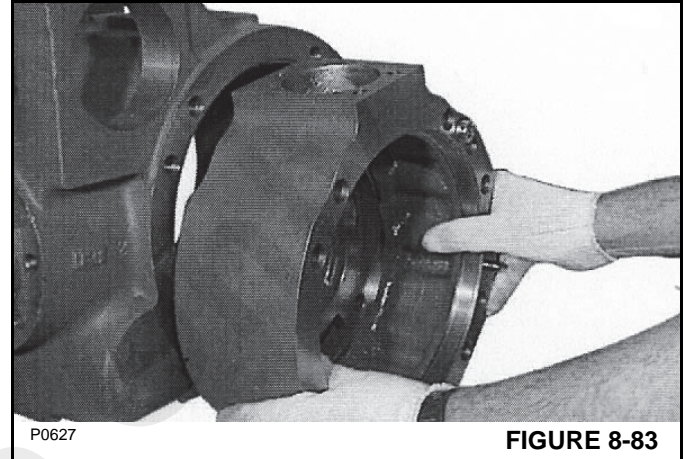

FIGURE 8-83
3. Check the correct positioning of the right and left brake flanges, using the reference marks on them and the center housing (Figure 8-83).